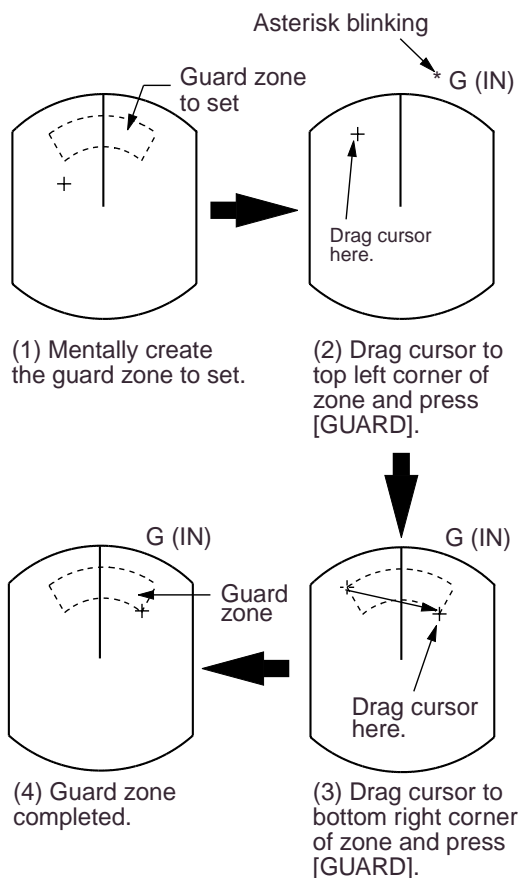

Figure 2-15 How to set a guard zone
1. Mentally create the guard zone you want to display. See Figure 2-15 (1).
2. Operate the omnipad to set cursor on top (bottom) left edge of the guard zone. Press the [GUARD] key. \*G (IN) (or G (OUT)), with asterisk blinking, appears at the top right-hand corner on the display. (The asterisk indicates the guard zone is partially set.) See Figure 2-15 (2).
3. Operate the omnipad to set cursor on bottom (top) right edge of the guard zone and press the [GUARD] key. The asterisk disappears. See Figure 2-15 (3).
4. Guard zone appears on the display. See Figure 2-15 (4).